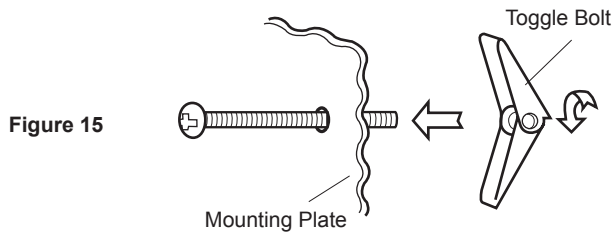

Figure 15
1. Separate 4 TOGGLE BOLTS, packed in the INSTALLATION HARDWARE, from the TOGGLE NUTS. Match 5/8" holes (not in studs), drilled through WALL TEMPLATE into wall to corresponding holes on MOUNTING PLATE. Insert Toggle Bolts into matched openings on MOUNTING PLATE. Put TOGGLE NUTS on TOGGLE BOLTS. Figure 15.